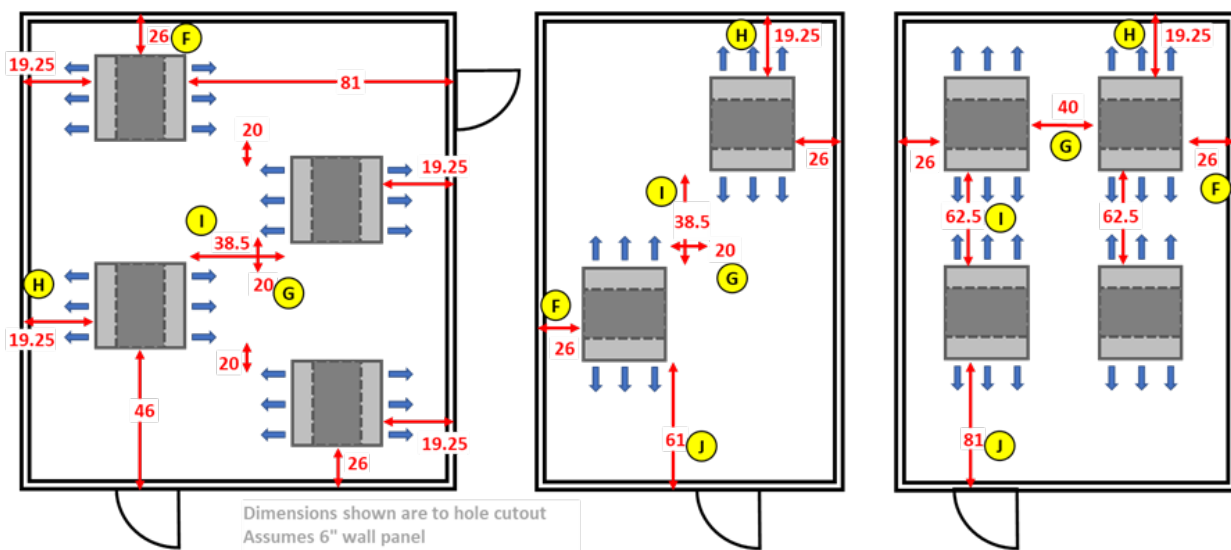

Figure 8 – Hole Cutout Spacing Dimensions
- Standard distance between the hole side and the room edge is 26". See "F" in the figure 8;
- Standard distance between the hole sides is 20" when staggered or 40" when in-line. See "G" in the figure 8.
- Minimum distance between hole side and room edge is 19.25". See "H" in Figure 8).
- Minimum distance between two holes, when in-line with the other is 62.5", and if staggered the minimum distance is 38.5". See "I" in Figure 8.
- The minimum distance between the hole side and room edge if blowing direct to a door is 81". If not blowing directly it is 61". See "J" in Figure 8.